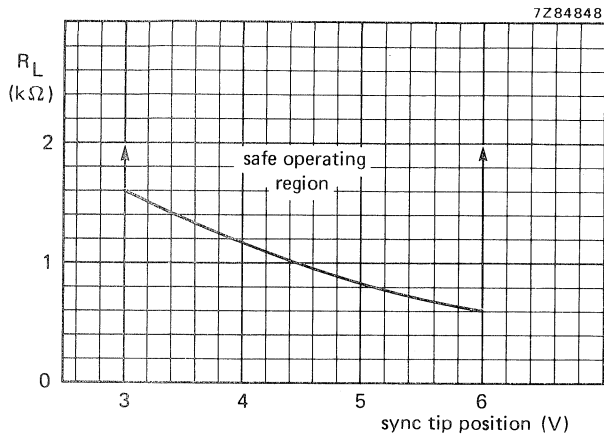

Fig. 4 Safe operating area for load resistor (R_L) at pin 8 as a function of sync tip d.c. position.
- (1) TOKO 7 P series coil 78 R former.
- (2) See derating curve Fig. 4.